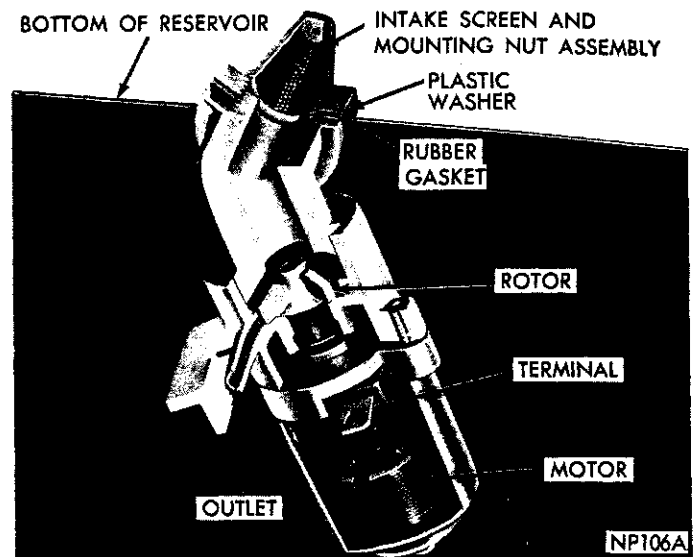

Fig. 3—Reservoir and Pump Assembly
As an aid to determine if the pump assembly is defective, connect a jumper wire from the blade terminal of the pump (Fig. 3), to the positive terminal of the battery. If pump operates, check wiring and
- (1) Install new rubber gasket on reservoir (Fig. 3).
- (2) Install pump assembly through gasket. Place plastic washer under screen and nut assembly, and tighten securely (approximately 25 inch-pounds). **Do not overtighten.**
- (3) Reconnect ground wire. Ground wire may be spliced, soldered or recrimped.